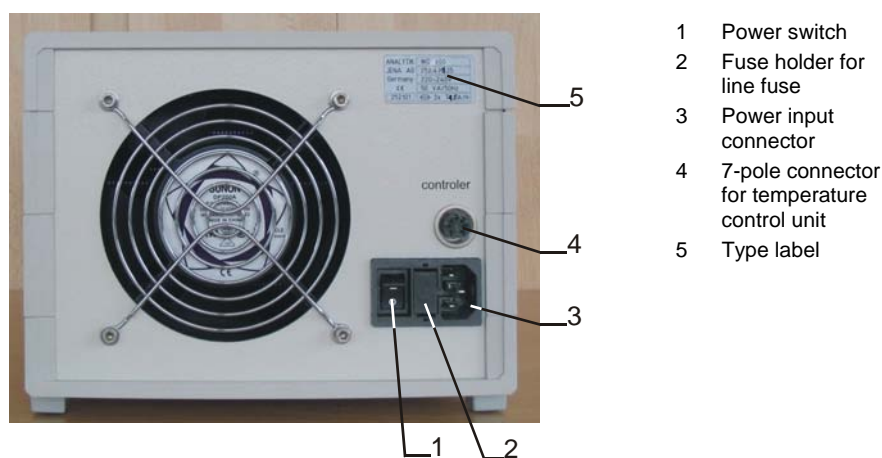

Fig.13-20 Heat exchanger, rear panel
1. Connect the 7-pin connector of the cell holder / changer (with the appropriate connector (Fig.13-20 / 4) on the rear panel of the temperature-control unit.
2. Connect the power cable to the power input connector (Fig.13-20 / 3) and then to a power outlet.
5. Switch on the heat exchanger with power switch (Fig.13-20 / 1).